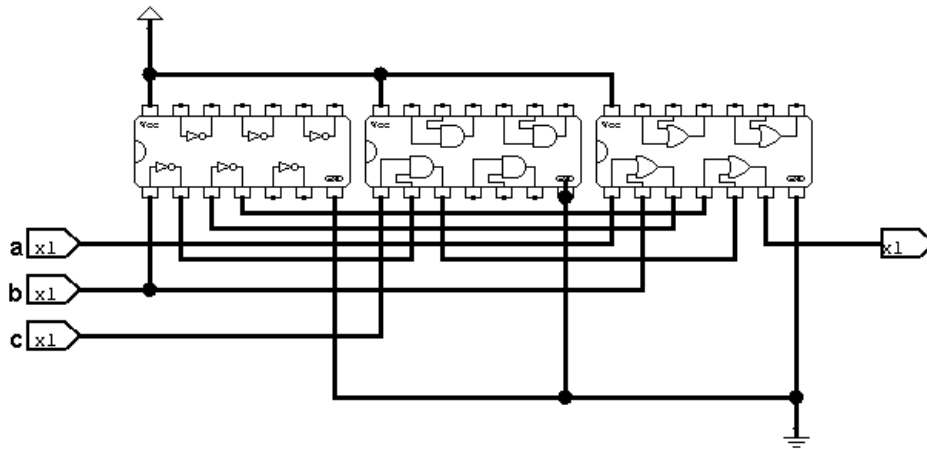
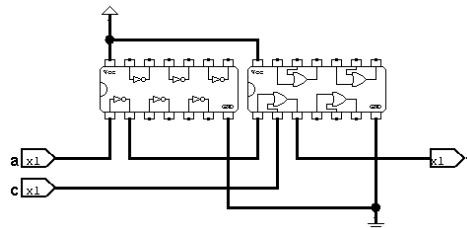

Figure 2: A schematic of the function from Part II.
Figure 3: A schematic of the function, with reduced cost.
The schematic for the minimized equation would require a 74LS04 (NOT) chip and a 74LS32 (OR) chip (Figure 3), which is 1 chip (and 3 gates) less than the original schematic (Figure 2).